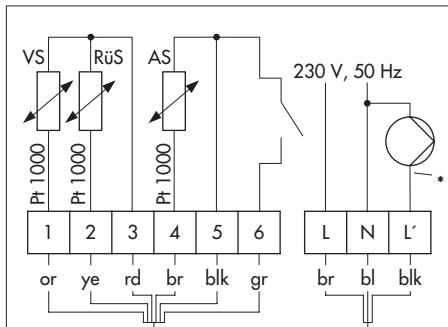

Fig. 2 : Wiring of Type 5757-7 (default)
The default setting (WE) is configured for an application with a flow sensor, outdoor sensor and return flow sensor as well as with an active binary input to switch over the operating modes (see Fig. 2).